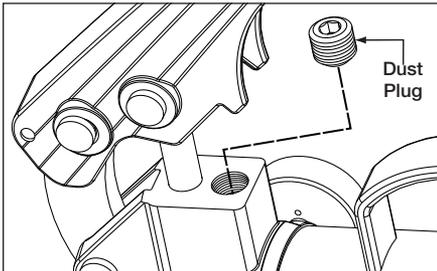

Figure 12, Relief Valve (P-18 and P-39)
- On models P-18 and P-39, the relief valve is located on the top surface of the pump head. See Figure 12.